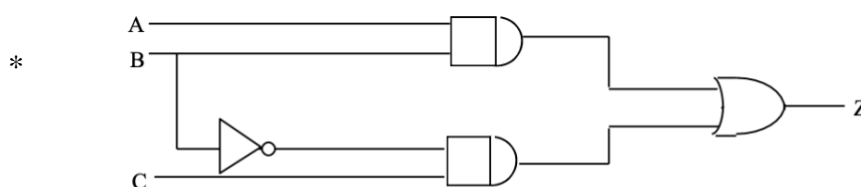

FIGURE 13. Sum of Products implemented with 2-level AND-OR Logic
**Part A:** In this section, we created a MUX Circuits with 2 inputs (A, C), one output (Z), and the select line (B). The logic of the MUX is such that if B is 0, it mirrors the input of C, and if B is 1, it mirrors the input of A (As shown in Figure 13, 16). Using this logic, we decided to create a Truth Table, and then develop a Karnaugh map.
Once we created the Boolean Expression, we expressed it in the form of a Circuit using the AND-OR-NOT circuit (shown in Fig 13\*). This required 3 chips for its implementation from the TTL components available – 7404 inverter, 7408 quad 2-input AND gate, and a 7432 quad 2-input OR gate.